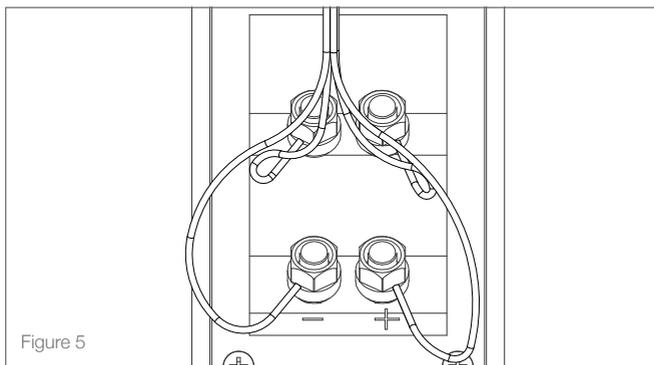

Figure 5
- Prewire to the woofer location - use provided strain-relief (see figure 5).